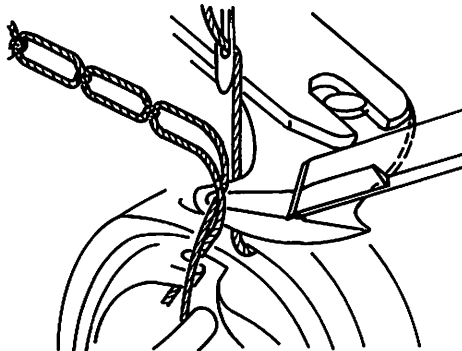

Fig. 21
- 2) Verify if the moving knife disposes the thread properly as shown in Fig.21.